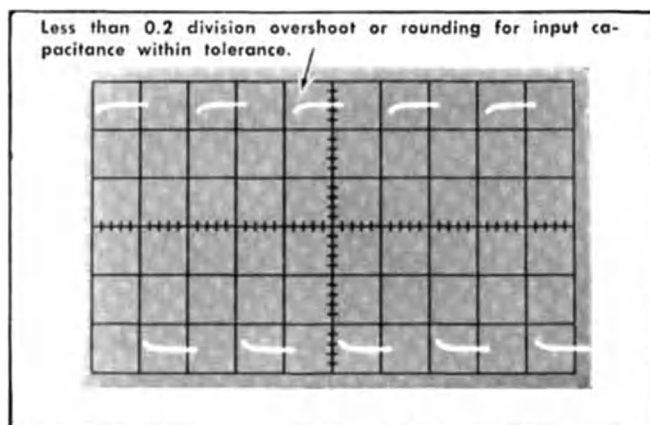

Fig. 6-9. Typical CRT display when checking input capacitance.
- CHECK—CRT display for 0.2 division, or less, overshoot or rounding (47 pF,  $\pm 4$  pF; see Fig. 6-9).